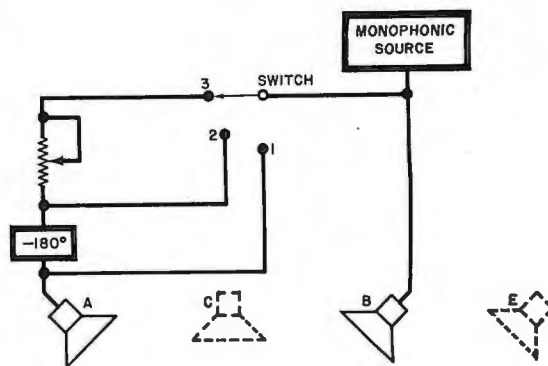

Fig. 5. Influence of phase reversal and level difference on fused-image location is shown.
Another experiment cited by Gardner shows to what extent phase differences can extend the range of sound-source localizations provided by a conventional stereo system. In the setup shown in Fig. 5, the phase of the signal going to speaker A can be reversed, in which case the phantom sound source (assuming the listener is positioned equidistant from the two speakers) shifts from a point directly ahead (C) to one directly behind (D). Switch position 3, which introduces some variable attenuation into channel A, enables one to achieve intermediate effects; locating the phantom source at E, for example. It would appear that, if you are willing to sit in the right spot and keep your head perfectly still, you can have "surround sound" from just two speakers. Again, this was confirmed by studies in Japan (Matsudaira and Fukami, in JAES, December 1973), although the researchers were inclined to attribute the rear localizations to contributions of the listening room.